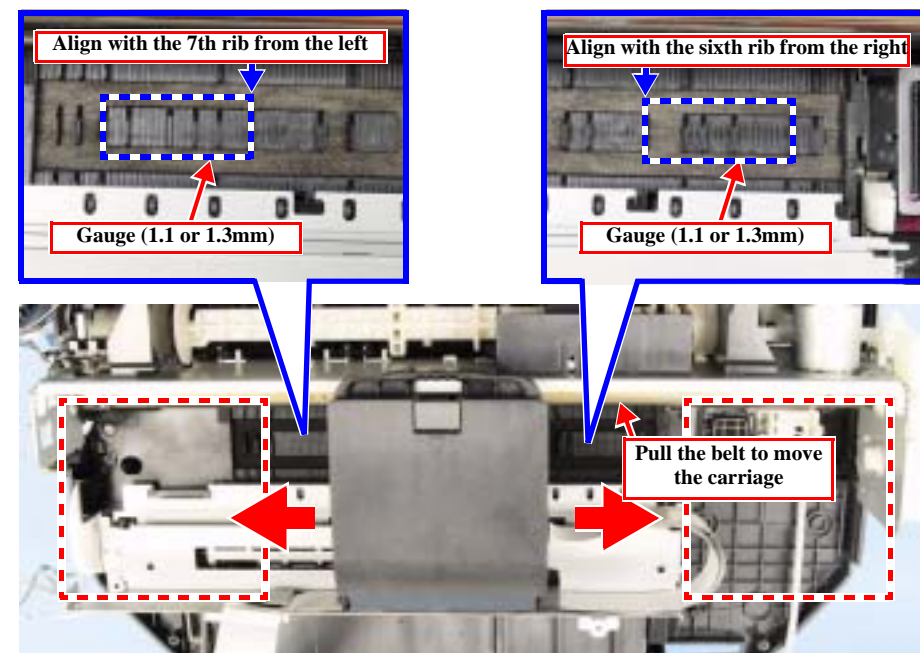

Figure 5-3. PG Adjustment 1
4. Move the carriage to the middle area of the platen, and place 1.1 mm thickness gauges at positions shown in the figure. (Fig. 5-3)
9. Move the carriage to the middle area of the platen, and place 1.3 mm thickness gauges at positions shown in the figure. (Fig. 5-3)